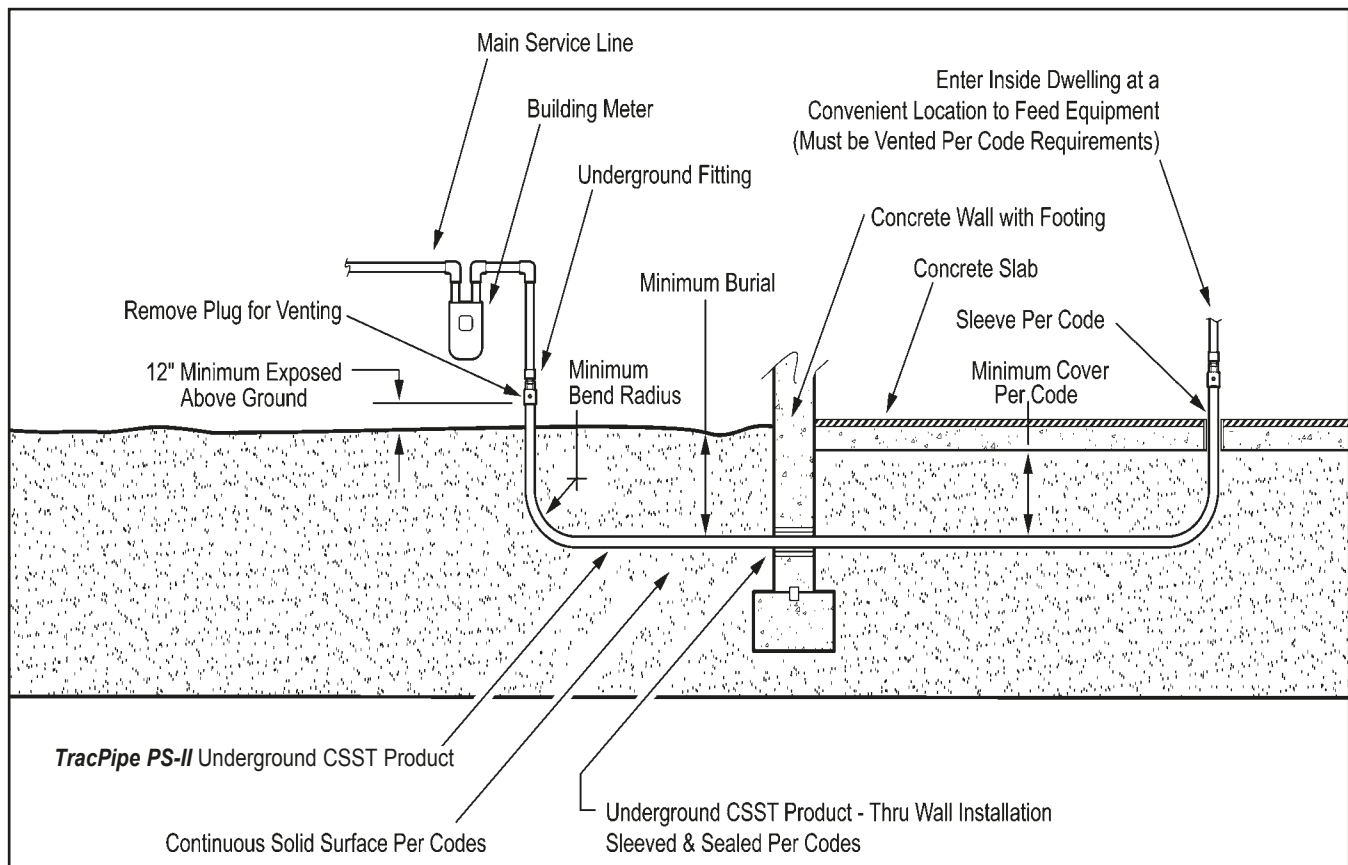

Figure: 4-24
2. When transitioning *TracPipe*® *PS-II* from below grade or above the floor, use the recommended minimum bend radius as depicted in Figure: 4-24 and shown in Table: 4.8.